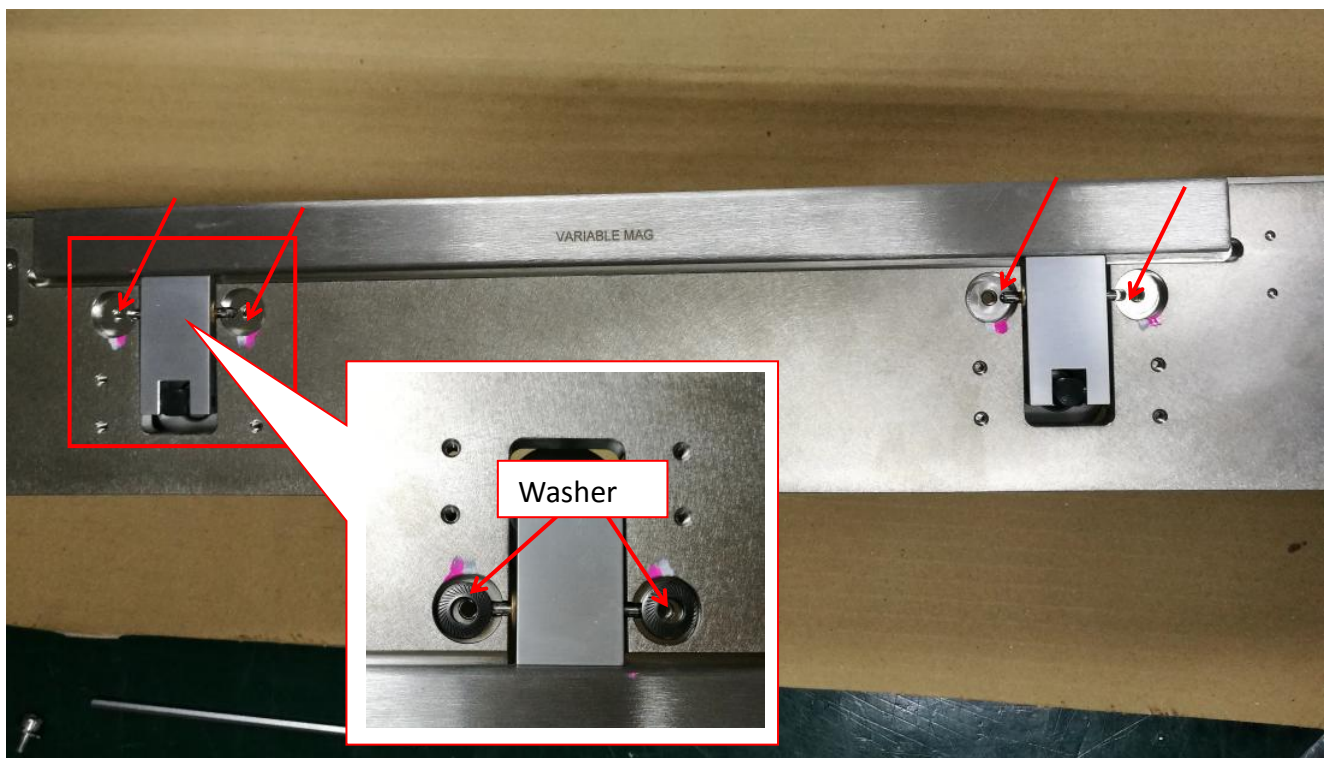

Figure 6 Washer Removal
7. Remove 4 x Washers as shown in Figure 6.